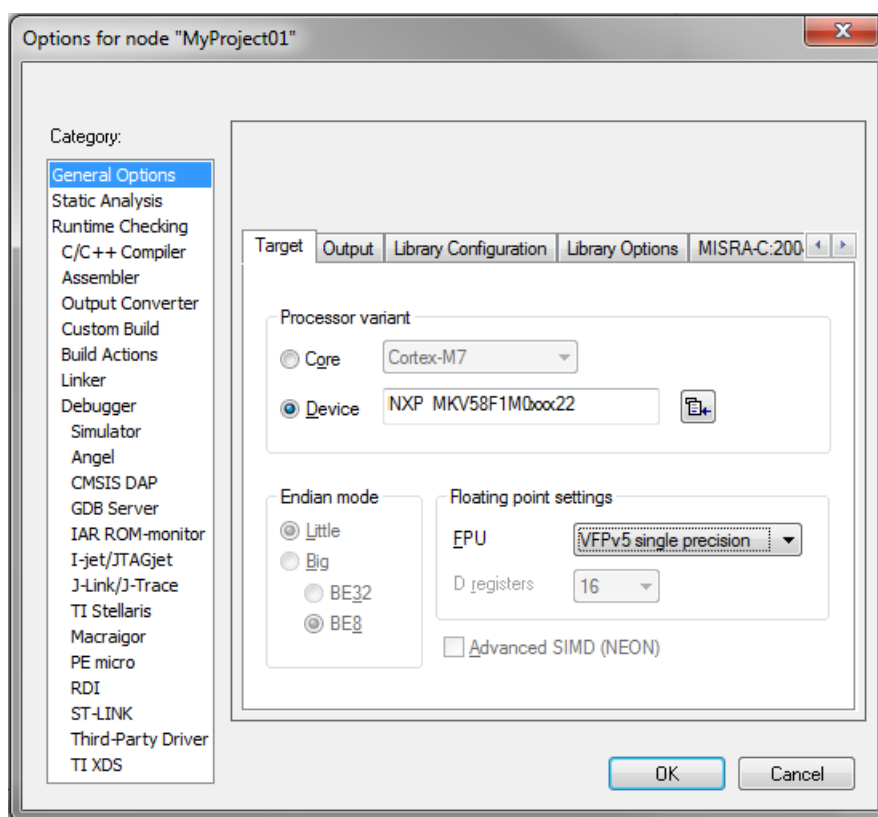

Figure 1-36. Options dialog
6. In the Target tab, select the Device option, and click the button next to the dialog to select the MCU. In this example, select NXP > KV5x > NXP MKV58F1M0xxx22. Select VFPv5 single precision in the FPU option. Click OK. See Figure 1-36.